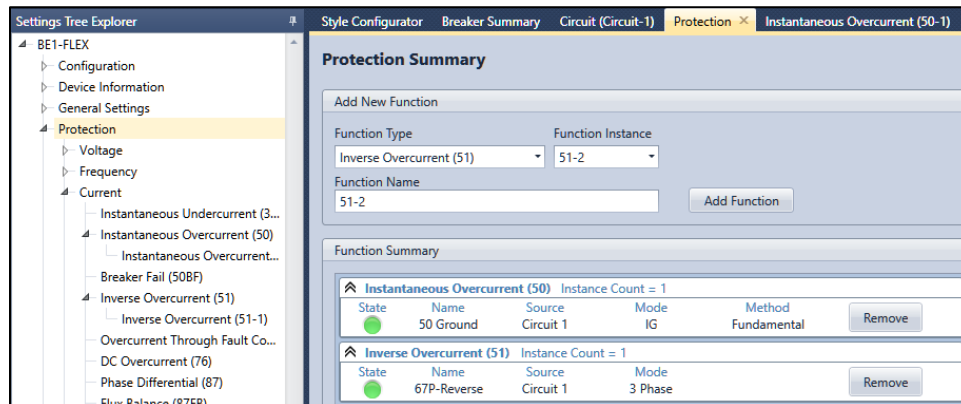

Figure 2-21. Protection Summary Screen
Step 14: Select Protection from the Settings menu to verify both 50 and 51 elements have Green states. See Figure 2-21.